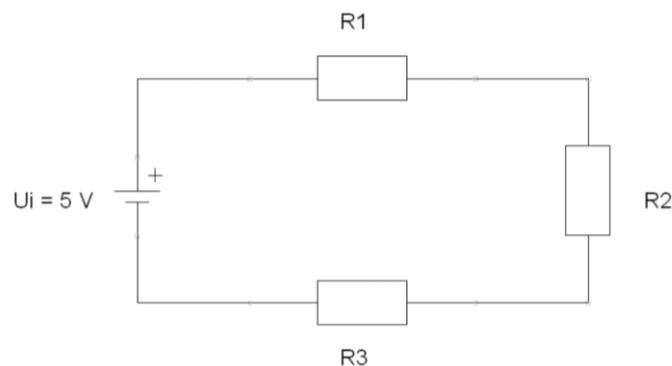

Figure 4.2: Resistors in series electrical circuit
4.2.1) The three resistors are connected in series to a direct voltage source. The series electrical circuit scheme/diagram is shown in Figure 4.2.